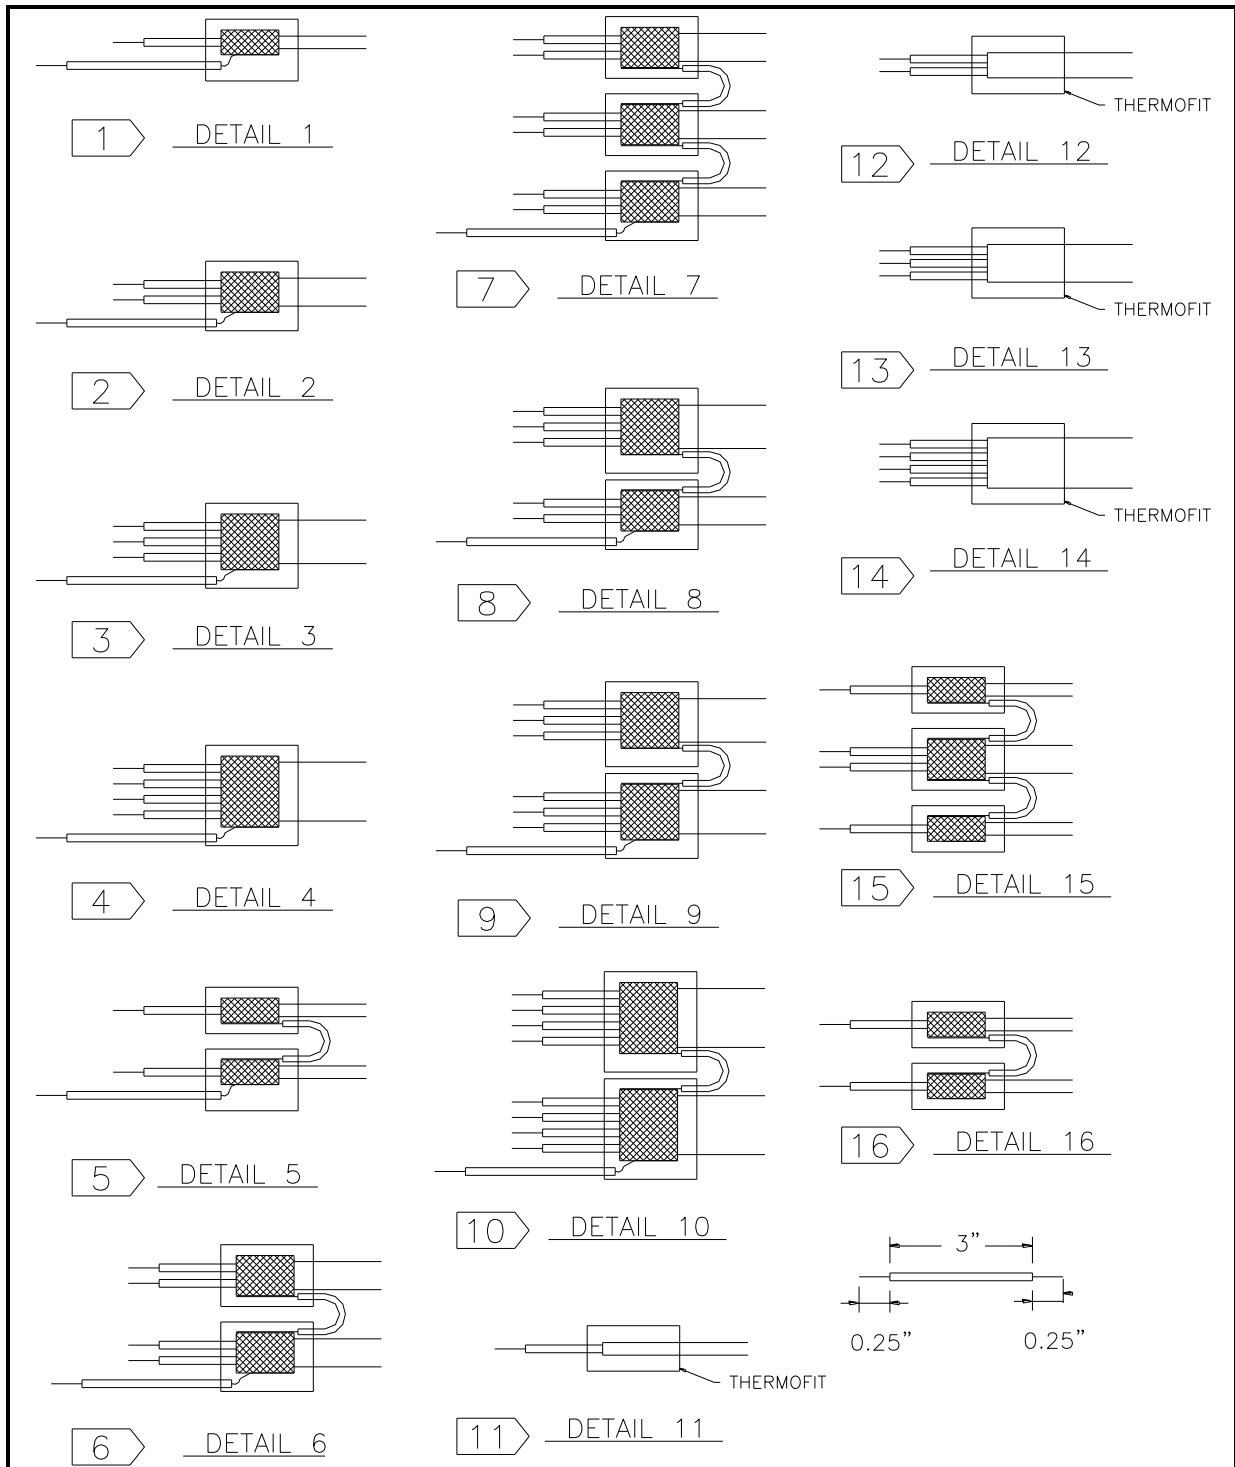

Figure 28: Cable Assembly Detail Wire Termination
- e. If a cable needs to be repaired or replaced due to damage, refer to the appropriate cable drawing in Section 7.3. Refer to Figure 26 and Figure 27 to identify materials labeled on all cable drawings. Refer to Figure 28 through Figure 40 for all cable assembly details. All cables should be built utilizing proper aviation practices.